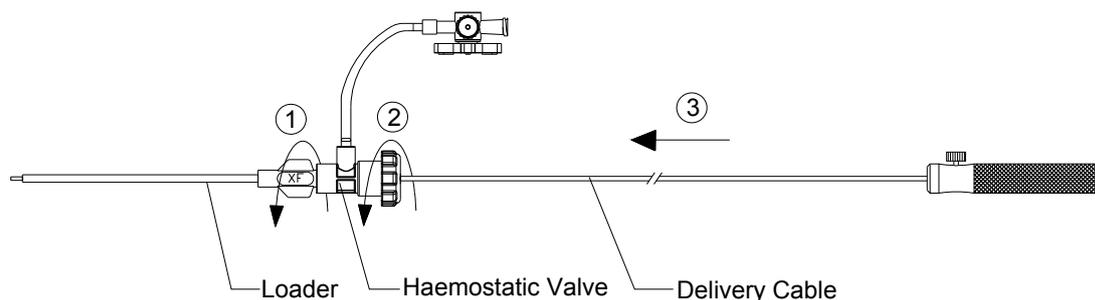

Figure 7 Connect the Haemostatic Valve and the Loader with Luer as ①,
- Connect the Haemostatic Valve and Loader with Luer, loosen the Haemostatic valve, then, push the Delivery Cable through the Haemostatic Valve and the Loader (As **Figure 7**).